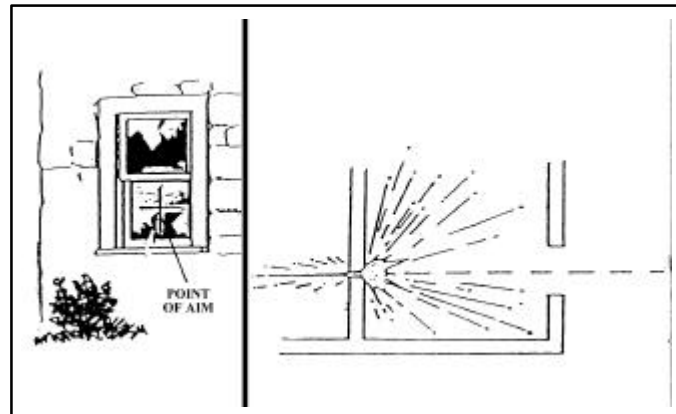

Figure B-1. Aim Point for 40-mm HEDP
(1) If projected into an interior room, the 40-mm HEDP can penetrate all interior partition-type walls. It splinters plywood and plaster walls, making a hole large enough to fire a rifle through. It is better to have HEDP rounds pass into a room and explode on a far wall, even though much of the round’s energy is wasted penetrating the back wall (Figure B-1). The fragmentation produced in the room causes more casualties than the high-explosive jet formed by the shaped charge.
(2) The fragments from the HEDP round do not reliably penetrate interior walls. They are also stopped by office furniture, sandbags, helmets, and protective vests (flak jackets). The M203 dual-purpose weapon has the inherent accuracy to place grenades into windows at 125 meters and bunker apertures at 50 meters. These ranges are significantly reduced as the angle of obliquity increases. Combat experience shows that M203 gunners cannot consistently hit windows at 50 meters when forced to aim and fire quickly.